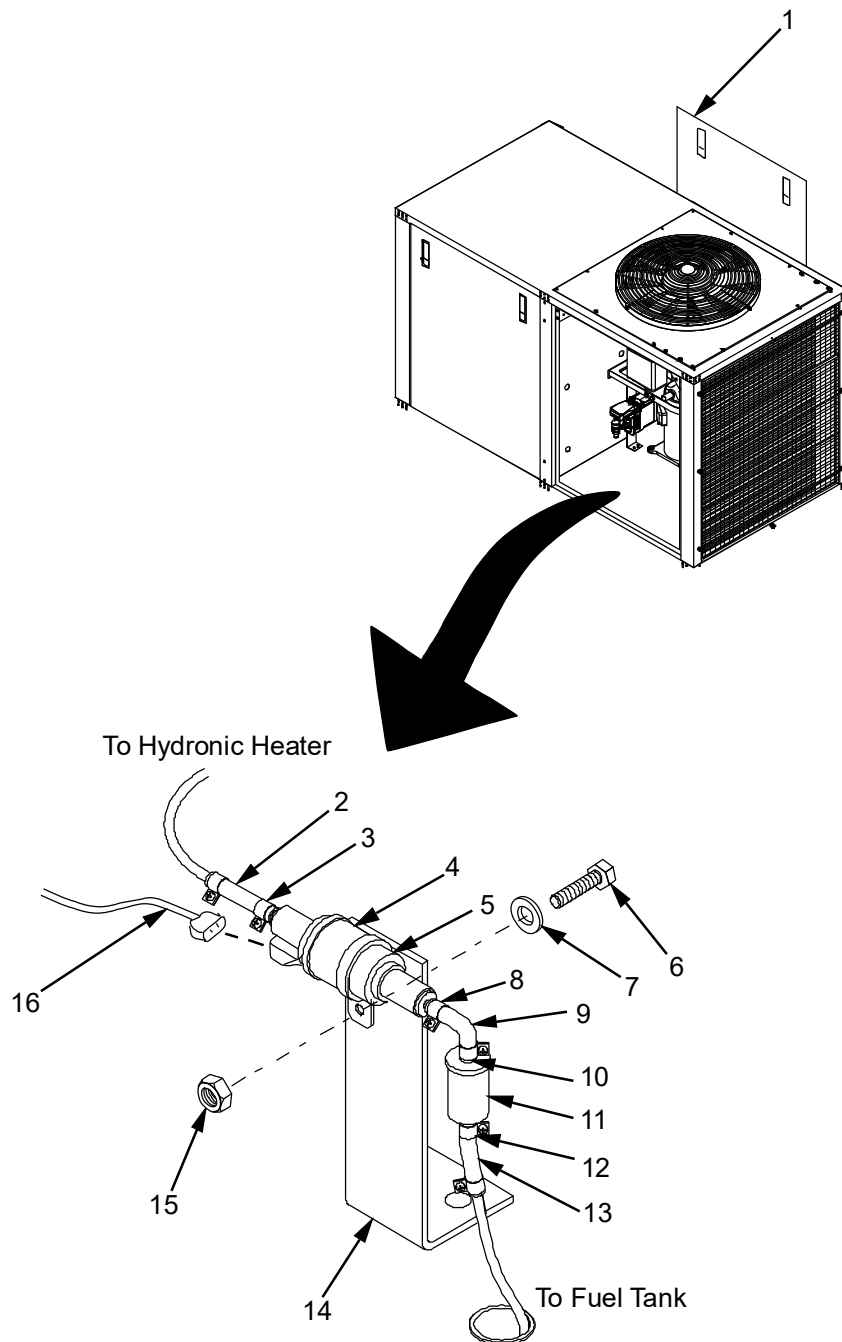

Figure 2. Auxiliary Heater Fuel Pump and Fuel Filter Replace.
3. Unlatch and remove rear access panel (Figure 2, Item 1) and set aside.
4. Disconnect electrical cable (Figure 2, Item 16) from fuel pump (Figure 2, Item 4).
5. Loosen hose clamp (Figure 2, Item 3) and disconnect fuel line (Figure 2, Item 2) (Auxiliary heater side) from fuel pump (Figure 2, Item 4). Guide fuel line (Figure 2, Item 2) to spill bucket and allow fuel to drain.
6. Loosen second hose clamp (Figure 2, Item 8) and disconnect fuel line (Figure 2, Item 9) (filter side) from fuel pump (Figure 2, Item 4).
7. Remove and retain screw (Figure 2, Item 6), flat washer (Figure 2, Item 7), and nut (Figure 2, Item 15), that secures fuel pump (Figure 2, Item 4) and clamp (Figure 2, Item 5) to bracket (Figure 2, Item 14).
8. Remove fuel pump (Figure 2, Item 4) and clamp (Figure 2, Item 5).
When performing the following steps verify that fuel pump (Figure 2, Item 3) is installed in the proper direction. Arrow should point towards fuel line going to Auxiliary heater.
1. Install clamp (Figure 2, Item 5) onto fuel pump (Figure 2, Item 4). Secure assembly to bracket (Figure 2, Item 14) with screw (Figure 2, Item 6), flat washer (Figure 2, Item 7), and nut (Figure 2, Item 15).
2. Connect fuel line (Figure 2, Item 9) (filter side) to fuel pump (Figure 2, Item 4) and secure with clamp (Figure 2, Item 8).
3. Connect fuel line (Figure 2, Item 2) (Auxiliary heater side) to fuel pump (Figure 2, Item 4) and secure with hose clamp (Figure 2, Item 3).
4. Connect electrical cable (Figure 2, Item 16) to fuel pump (Figure 2, Item 4).
6. Install and secure front and rear access panels (Figure 2, Item 1).
3. Unlatch and remove access panel (Figure 2, Item 1) and set aside.
4. Loosen hose clamp (Figure 2, Item 10) and disconnect fuel line (Figure 2, Item 9) (fuel pump side) from fuel filter (Figure 2, Item 11).
5. Loosen second hose clamp (Figure 2, Item 12) and disconnect fuel filter (Figure 2, Item 11) from fuel line (Figure 2, Item 13) (fuel tank side).
When performing the following steps verify that fuel filter (Figure 2, Item 11) is installed in the proper direction. Arrow should point towards fuel line going to Auxiliary heater.
1. Connect fuel filter (Figure 2, Item 11) to fuel line (Figure 2, Item 13) (fuel tank side) and secure with hose clamp (Figure 2, Item 12).
2. Connect fuel line (Figure 2, Item 9) (fuel pump side) to fuel filter (Figure 2, Item 11) and secure with hose clamp (Figure 2, Item 10).
4. Install and secure access panel (Figure 2, Item 1).